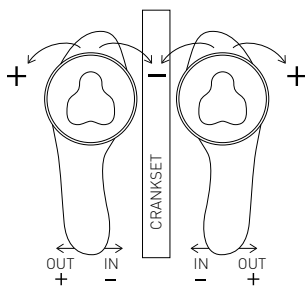

Fig. 8.2
8. The protractor disc has a graduated scale on both sides. Should there be no rotation, centre point 0 with the laser beam to adjust the cleat correctly. Instead, if the web app indicates the need to turn the cleat, rotate this, making the values indicated on the disc coincide on both sides (**Fig. 8.1**). By turning the protractor towards the outside of the shoe (+), the heel of the shoe moves away from the crank. By rotating the protractor towards the inside of the shoe (-) the heel of the shoe moves closer to the crank (**Fig. 8.2**).